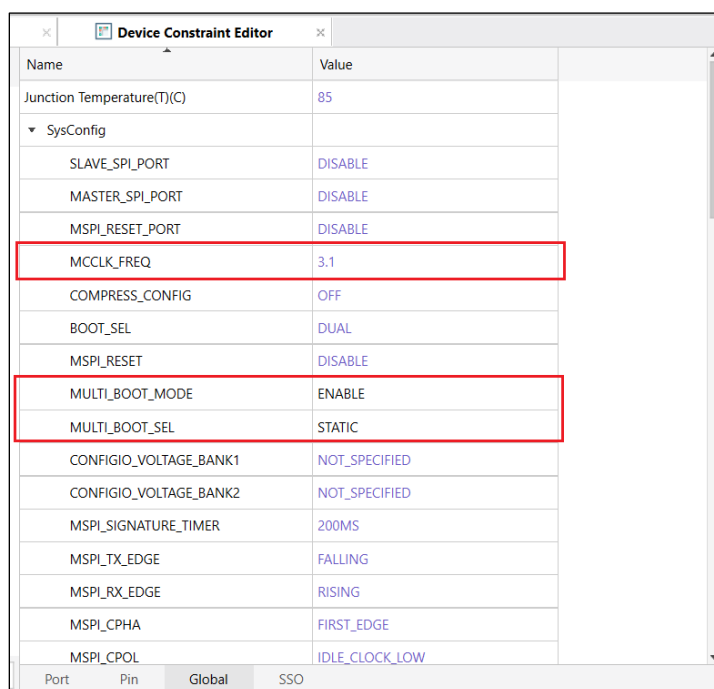

Figure 7.13. Configuring MCCLK_FREQ, MULTI_BOOT_MODE, and MULTI_BOOT_SEL in Device Constraint Editor
- MCCLK_FREQ, MULTI_BOOT_MODE, and MULTI_BOOT_SEL can be configured using the Global tab of the Device Constraint Editor in the Lattice Radiant software (Figure 7.13).